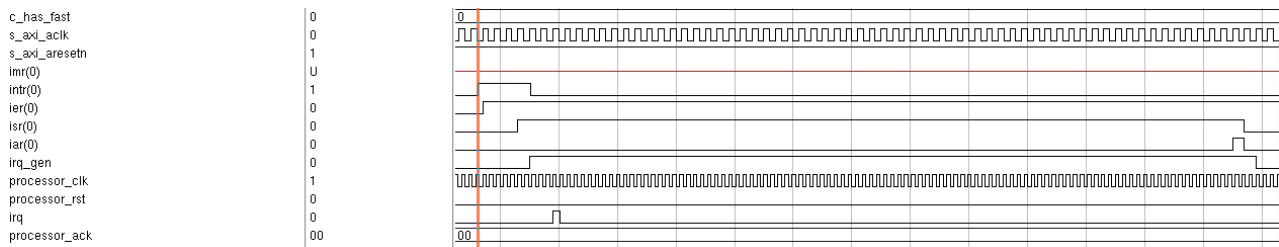

Figure 3-4: Input Intr - Edge Sensitive (Rising), Output Irq - Edge Sensitive (Rising), C_HAS_FAST = 0
- Configured Input Interrupt (Intr) for Edge sensitive (rising), Output Interrupt Request (Irq) to Edge sensitive (Rising), disabled fast interrupt logic (C_HAS_FAST = 0). Timing diagram is shown in Figure 3-4.